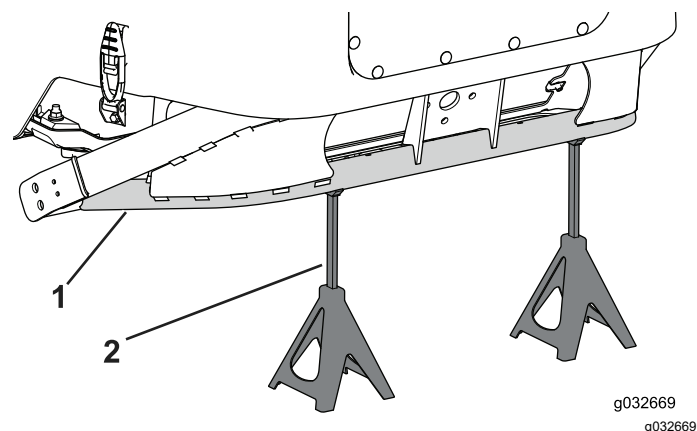

Figure 115
2. Use a floor jack to raise the back of the machine high enough to install the summer wheels and support the frame with jack stands (Figure 115).
6. Use a floor jack to lower the summer wheels to the ground and support the back of the frame with jack stands (Figure 115).